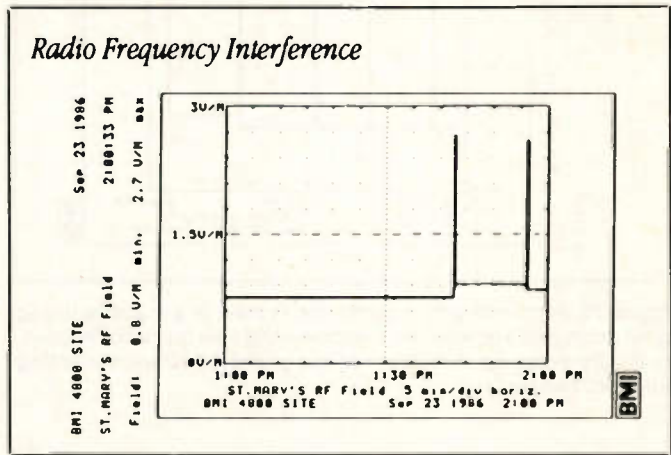

Figure 10.
9. Radiated RFI can disrupt sensitive electronic equipment. Typical sources include radio stations, public address systems, radio transmitters operated by security personnel, and arcing contacts or motor brushes. RFI problems can be misdiagnosed as power problems. See Figure 10.